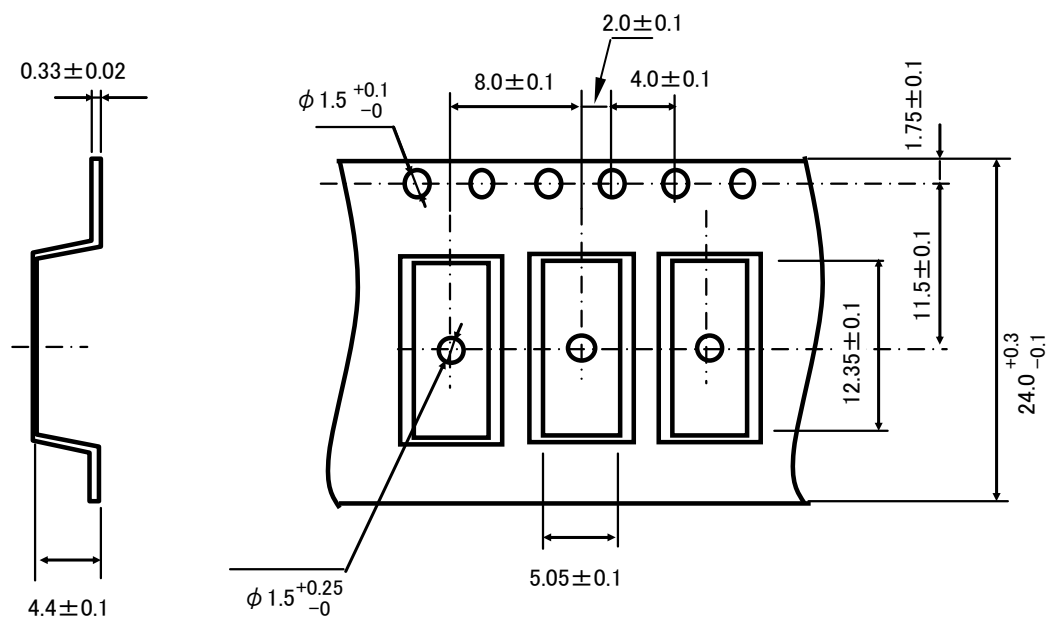

Figure 3 Tape Forms
(2)Dimensions: The tape dimensions are as shown in Figure 3.